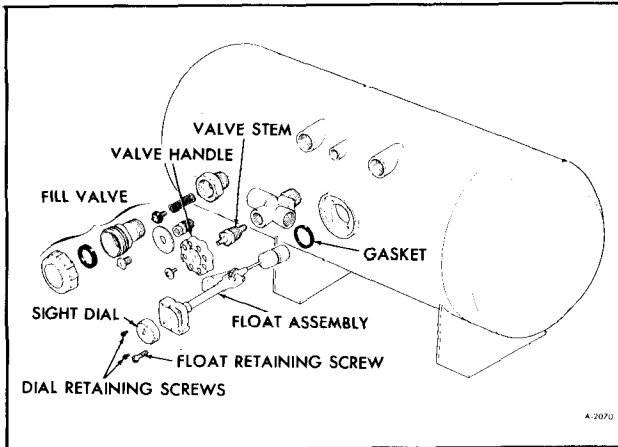

Figure 6—LP Gas Tank Components
2. Remove valve handle securing screw. Remove handle (See figure 6).
3. Remove valve stem (See figure 6).
1. Remove two (2) retaining screws (See figure 6).
2. Remove four (4) float retaining screws (See figure 6).
**NOTE:** Position float as shown in Figure 6 while removing from tank.